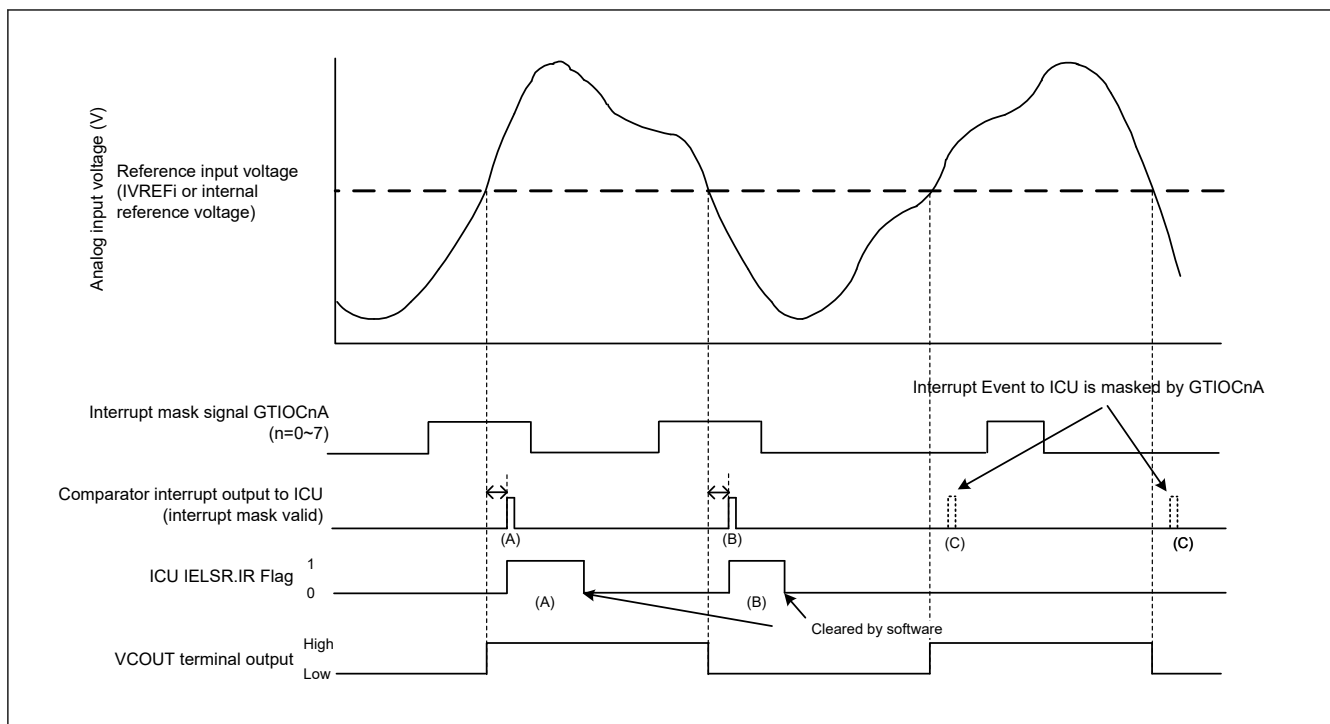

Figure 55.3 ACMPHS operation example (interrupt mask function valid)
Figure 55.2 and Figure 55.3 show an example of ACMPHS operation. The VCOUT output becomes 1 when the analog input voltage is higher than the ACMPHS reference input voltage, and the VCOUT output becomes 0 when the analog input voltage is lower than the reference voltage. When the ACMPHS output changes, an interrupt request and an ELC event are output.
Figure 55.3 applies when $CPOE = 1$ (pin output enabled), $CDFS[1:0] = 00b$ (filter not used), $CEG[1:0] = 11b$ (both-edge detection selected). When $CINV = 0$, $CEG[1:0] = 01b$ (rising-edge detection selected for non-inversion output signal from the ACMPHS), the IELSR.IR flag changes as shown by (A) only. When $CINV = 0$, $CEG[1:0] = 10b$ (falling-edge detection selected for non-inversion output signal from the ACMPHS), the IR flag changes as shown by (B) only.
Interrupt event to ICU/ELC can be masked by GPT output (GTIOCnA (n = 0 to 7)), it's controlled by CPINTCTL.MSKE bit and CPMSKCTL.MSKSEL[2:0] bits. Detail refer to Figure 55.3.